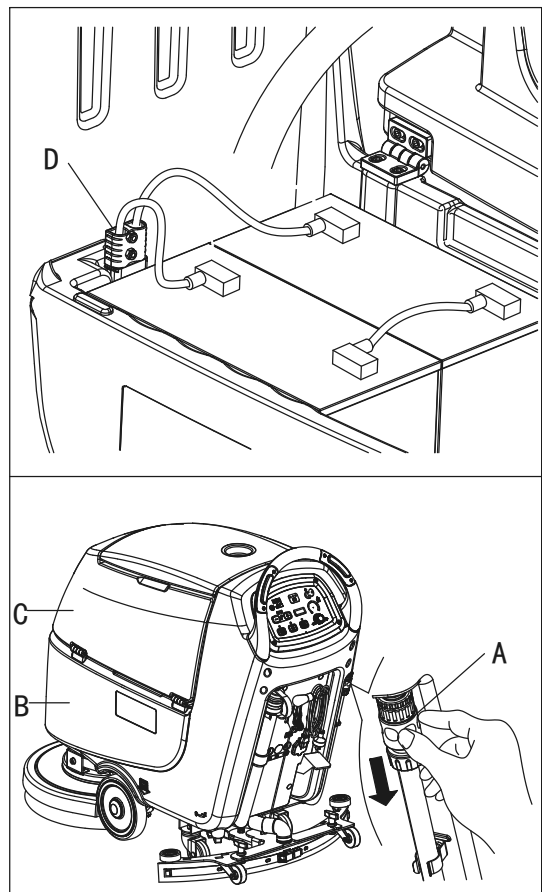

Figure 15
7. Empty the solution tank with the hose (A, Figure. 15). After working, rinse the tank with clean water.
2. Empty the tanks (B and C, Figure. 15) as shown in the previous paragraph.